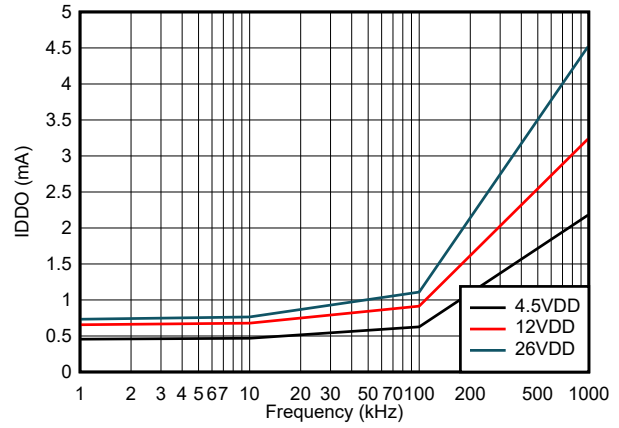

图 6-4. Operating Supply Current (Both Outputs Switching)
- (1) Operation outside the Absolute Maximum Ratings may cause permanent device damage. Absolute Maximum Ratings do not imply functional operation of the device at these or any other conditions beyond those listed under Recommended Operating Conditions. If outside the Recommended Operating Conditions but within the Absolute Maximum Ratings, the device may not be fully functional, and this may affect device reliability, functionality, performance, and shorten the device lifetime.
- (2) All voltages are with respect to GND unless otherwise noted. Currents are positive into, negative out of the specified terminal. See Figure 6.4 of the datasheet for thermal limitations and considerations of packages.
- (3) These devices are sensitive to electrostatic discharge; follow proper device handling procedures.